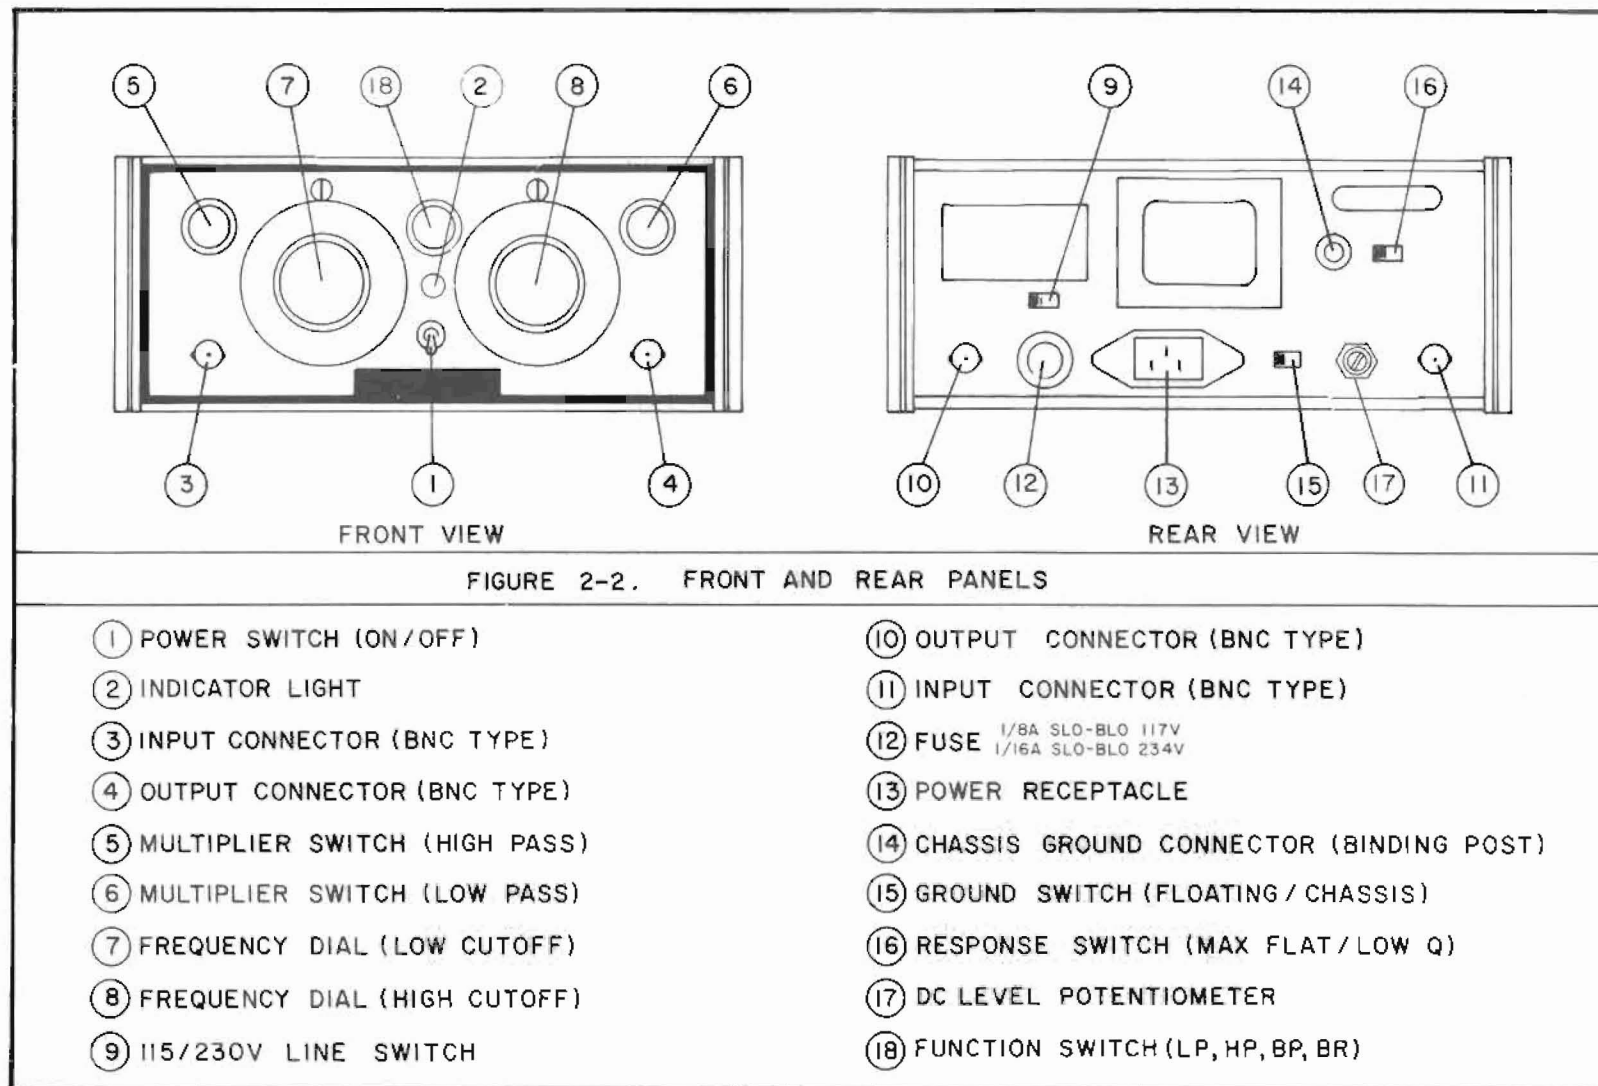

Figure 2-2. Front and Rear Panels
2.2 CONTROLS AND TERMINALS (Figure 2-2)